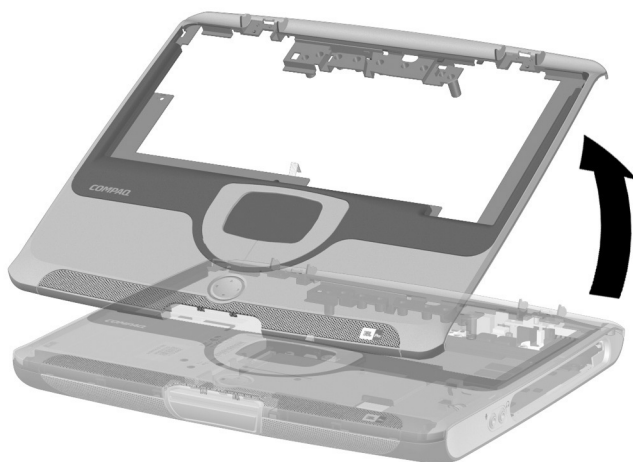

Figure 5-35. Removing the Top Cover
8. Swing the back edge of the top cover up and forward until the front edge of the top cover disengages from the base enclosure (Figure 5-35).